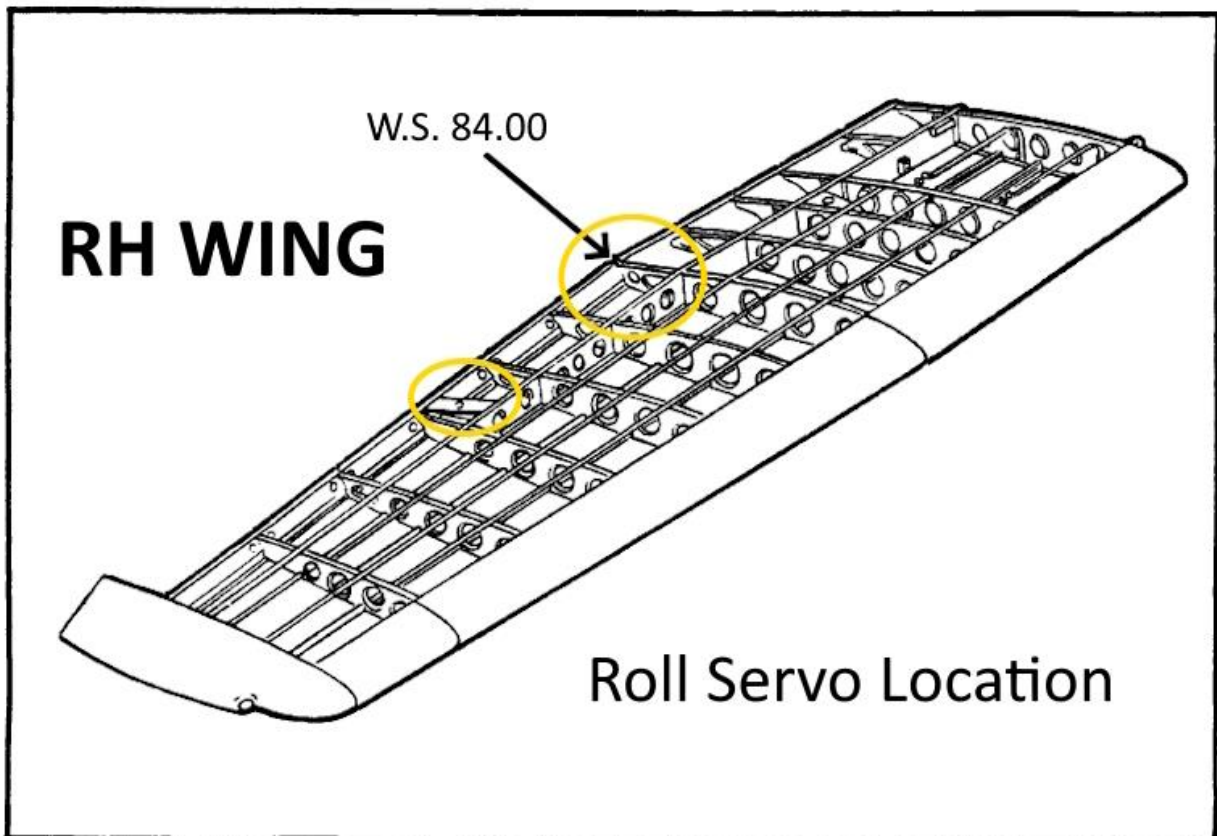

FIGURE 1-1 AREAS OF MODIFICATION
- 3.3 Remove seats and interior, as needed, for wiring installation and access to areas of modification. Refer to Figure 1-1, 3-1, 3-2, and 3-4. Fuselage sections of aircraft serial numbers prior to 15061533 are depicted in Appendix B Figure B-1 & Appendix C Figure C-1.